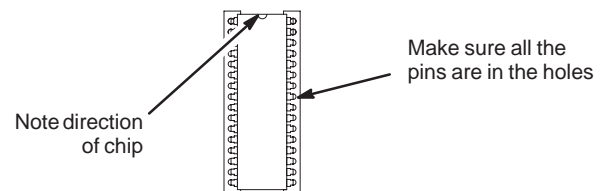

Fig. 48
5. Install the new software chips. Make sure chips U6 and U7 are placed in their proper locations. Verify the chips are facing the correct direction and all the pins are in the holes. See Fig. 48.